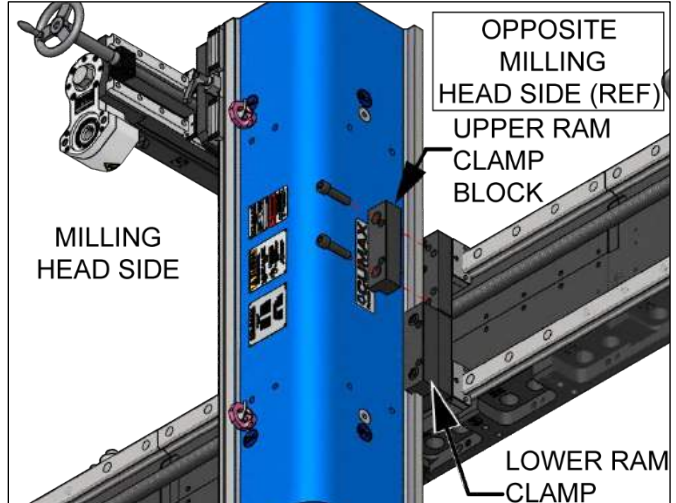

Figure 13. Upper ram clamp block removal
- a. On the opposite side of the ram from the milling head (see Figure 13 on page 45).
4. Place the ram on the saddle plates, and tighten the ram clamps on the drive side as shown in Figure 13. Leave the ram clamps loose on the gantry side.